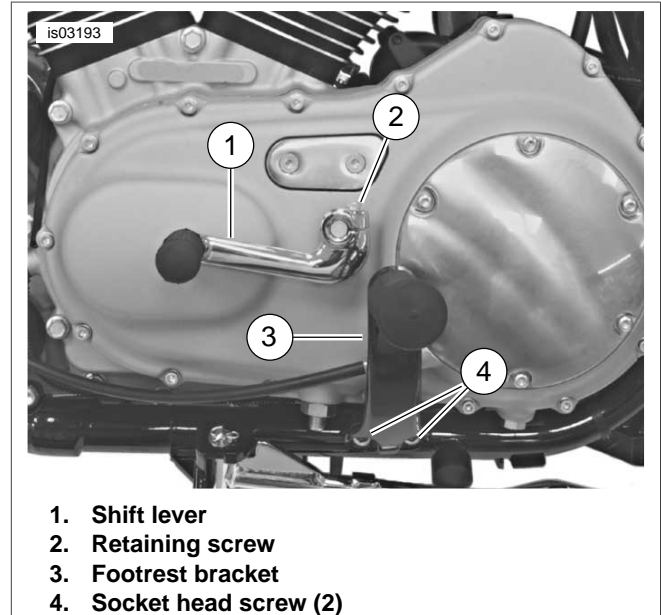
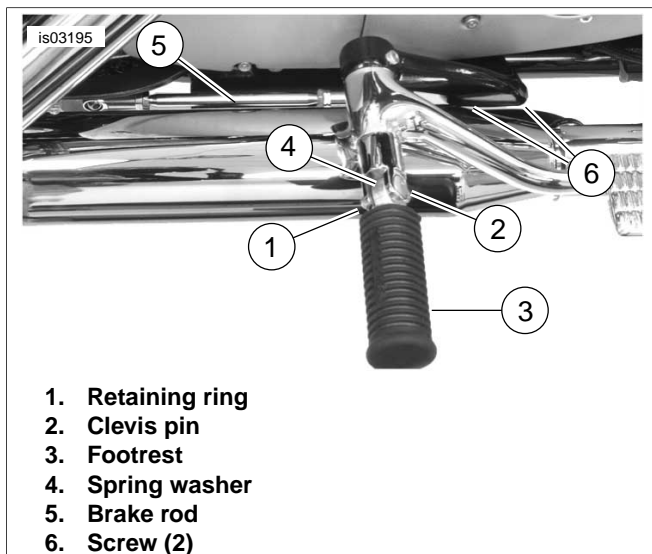
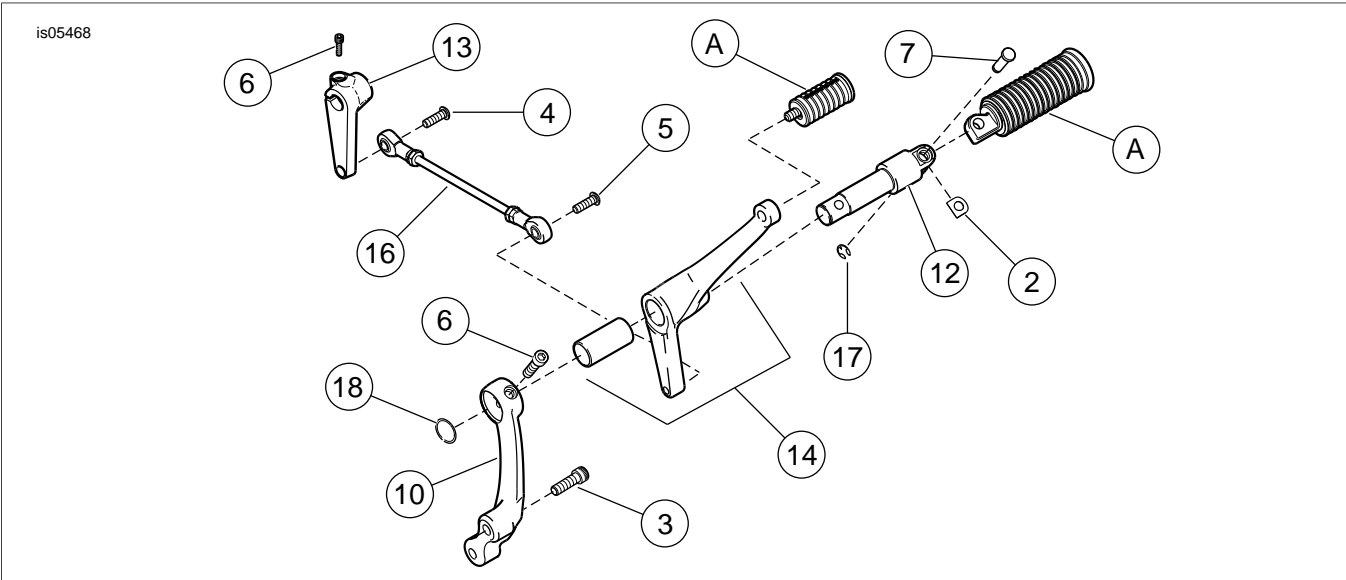
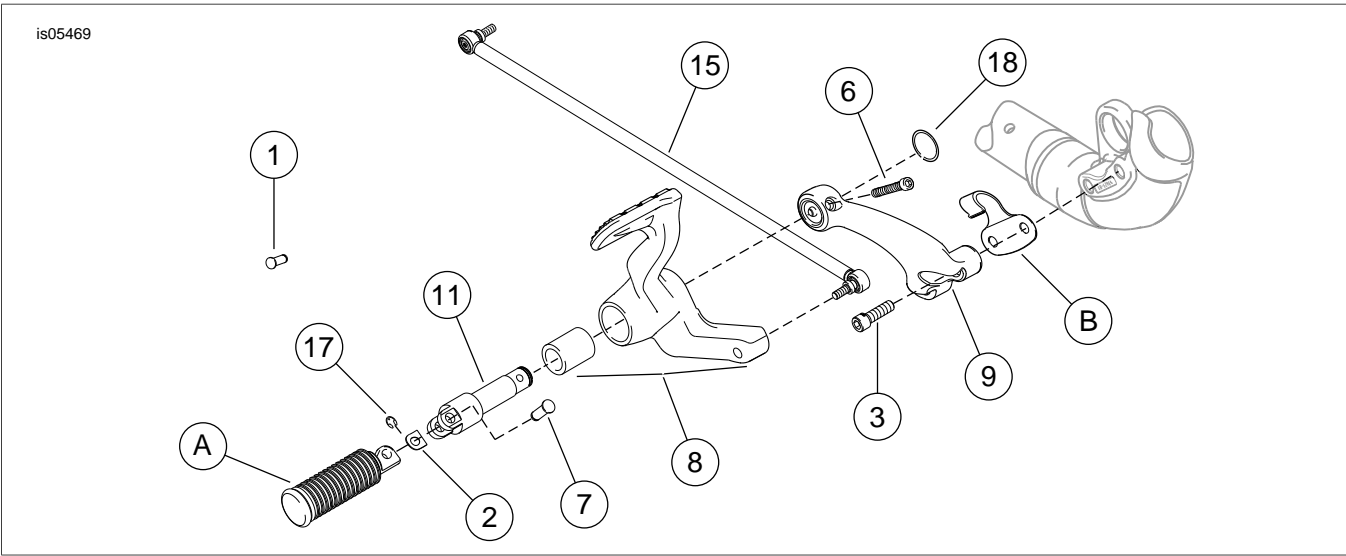

Figure 1. Remove Shift Lever and Footrest
Figure 3. Remove Footrest Support Pedal and Brake Pedal
Figure 5. Service Parts: Forward Control, Left (Shift) Side
Figure 6. Service Parts: Forward Control, Right (Brake) Side
See Figure 5, Figure 6 and Table 1.
1. See Figure 1. Loosen the shift lever retaining screw (2) securing the shift lever (1) to the shifter shaft. Slide the shift lever off the splined shaft. Remove shifter peg from lever and save for installation. Discard shift lever.
2. Remove the two socket head screws (4) securing the footrest bracket (3) to the frame and remove footrest. Discard screws.
3. See Figure 6. Obtain two hole plugs (1) from kit and firmly press plugs into frame screw holes remaining from footrest removal.
1. See Figure 3. At the right footrest, remove the retaining ring (1) clevis pin (2), footrest (3) and spring washer (4). Discard all hardware but save footrest for installation.
3. Remove brake rod (5) from brake pedal and master cylinder bell crank. Discard brake rod.
- Remove the two screws (6) and right footrest/brake pedal support bracket with attached brake assembly from frame. Discard footrest support bracket and entire brake pedal assembly.
- See Figure 5 and Figure 6. Obtain hole plugs (1) and install in holes left from support bracket removal.
- See Figure 5 and Figure 6. At the lower front of the right frame downtube, remove the two screws securing the J-clip (B) to the frame. Discard the screws but save J-clip for installation.
- Install the other end of the brake rod into the brake pedal assembly (8). Tighten to 84-144 **in-lbs** (9.5-16.3 Nm).
- See Figure 5. Obtain shift link arm (13) and screw (6) from kit. Orient shift link arm pointing straight down and slide onto shift shaft (exiting engine side cover). Install screw (6) and tighten to 8-13 ft-lbs (11-18 Nm).
- Mount footrest/shift pedal support bracket (10) to frame using screws (3). Tighten to 45-50 ft-lbs (61.1-67.9 Nm).
- Slide shift pedal (14) onto clevis (12). Mount clevis on footrest/shift pedal support bracket (10). Align hole in clevis with hole in support bracket and secure using screw (6). Tighten screw to 18-22 ft-lbs (24.4-29.9 Nm).
- Install retaining ring (18) to the relief at the end of the clevis (12) to further secure it in place.
- Install screw (4) in far end of the shift rod (16) and into shifter arm (13). Tighten to 120-180 **in-lbs** (13.6-20.3 Nm).
- Install screw (5) in opposite end of shift rod (16) into shift lever (14). Tighten to 120-180 **in-lbs** (13.6-20.3 Nm).
- Install footpeg on clevis (12) with spring washer (2). Make sure spring washer is positioned inside clevis with the square edge toward the inside. Align holes and push clevis pin (7) from top down through hole in clevis. Secure clevis pin using the **new** retaining ring (17).